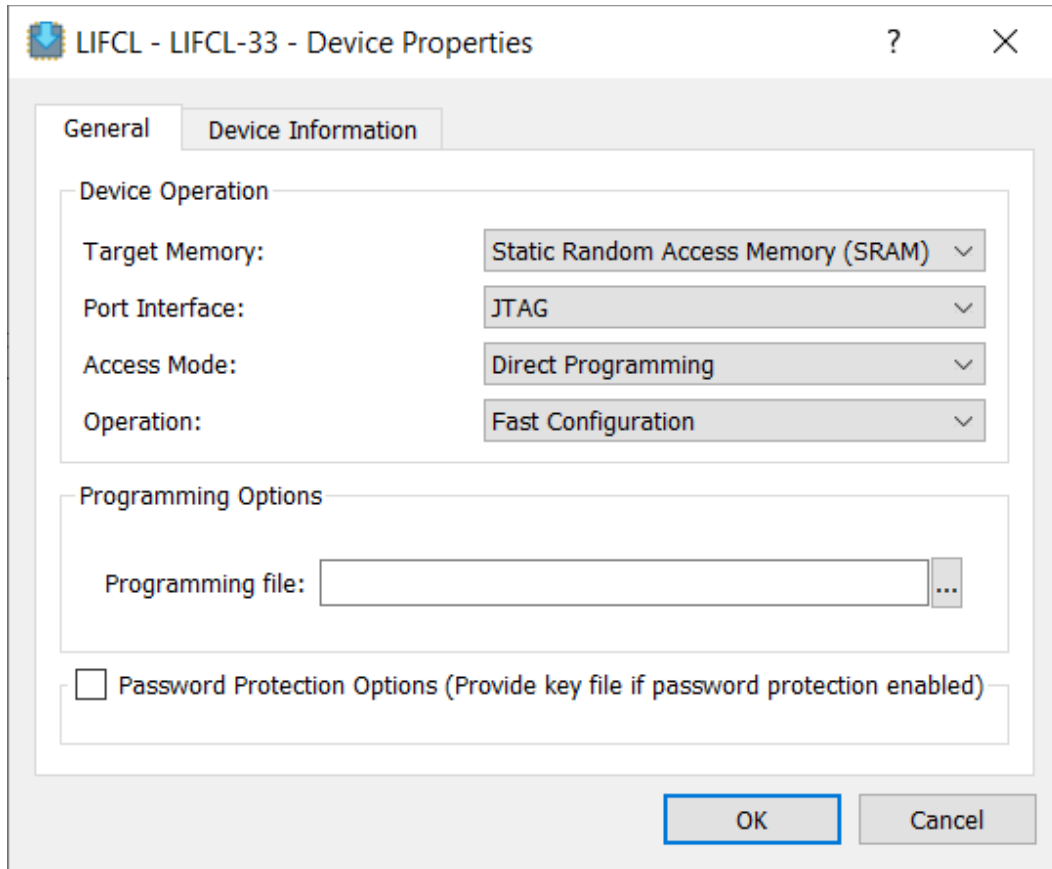

Figure 2.4. Radiant Programmer Device Properties Windows
6. The Device Properties windows as shown in Figure 2.4 is displayed.